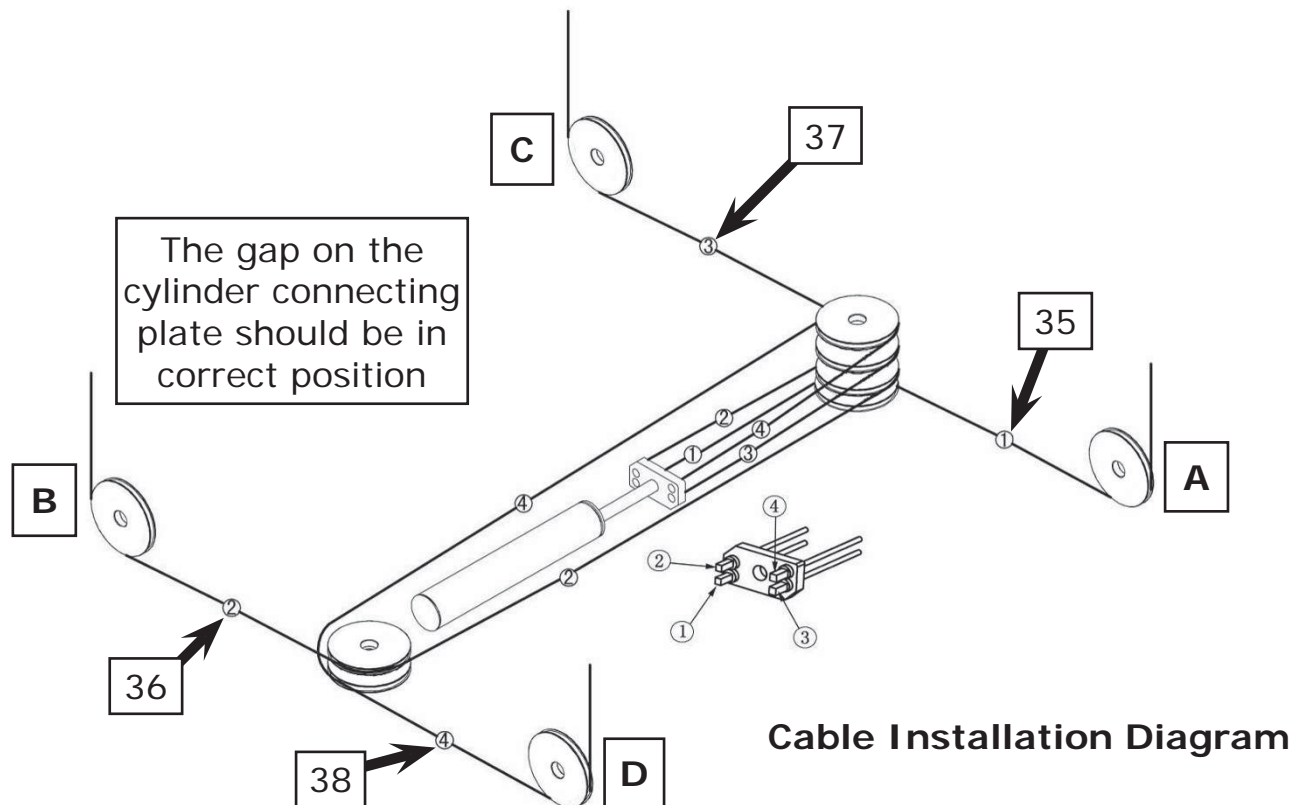

Fig. 18
1. Pass the cables through the platform to the columns according to the letter of the cables (See Fig. 18)